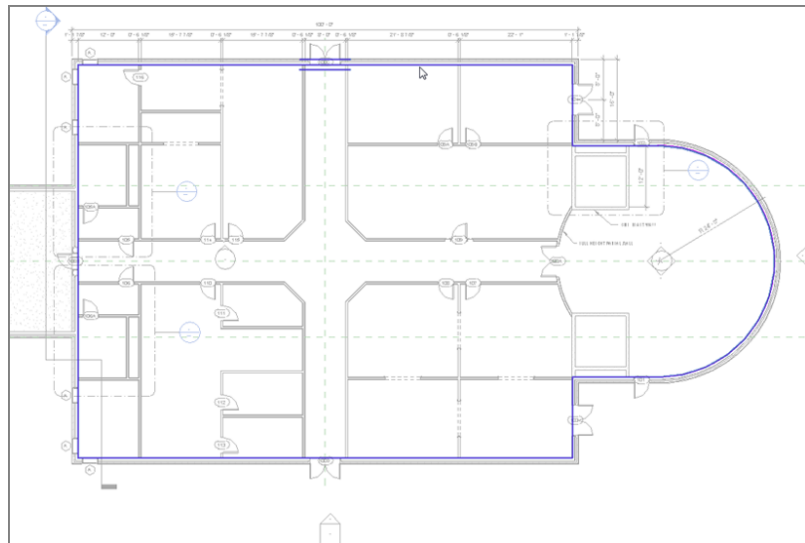

FIGURE 6.18: Adding a slab to the east wing
5. Trim any gaps or overlaps that occur in the corners, as shown in Figure 6.18. Also, pay special attention to the radial entry; it can be tricky.